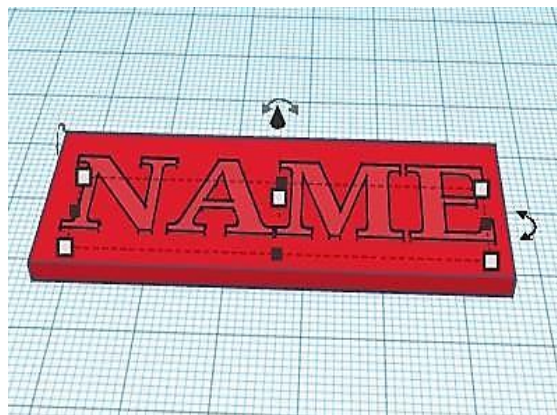

Fig. 4.17: Placing Name over the Box And Adjusting its Thickness
6. Once you have typed your name, drag it on top of your box. Click your middle handle and decrease the thickness of your name to around 3 mm (Fig. 4.17).